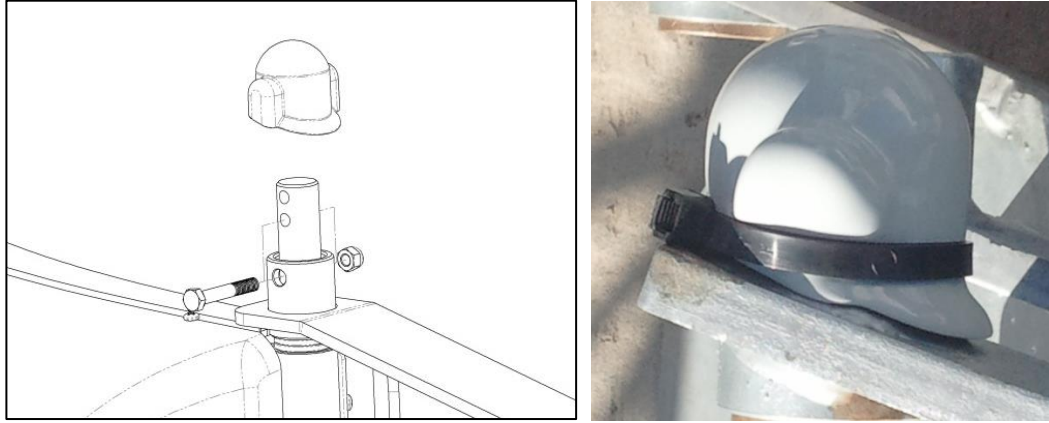

Figure 16: Tail Pivot Pin Cap
7. Place the tail pivot pin cap (P/N 11285) on the pivot pin and use a zip tie (P/N HM0012) to secure it in place, as shown in **Figure 16**.